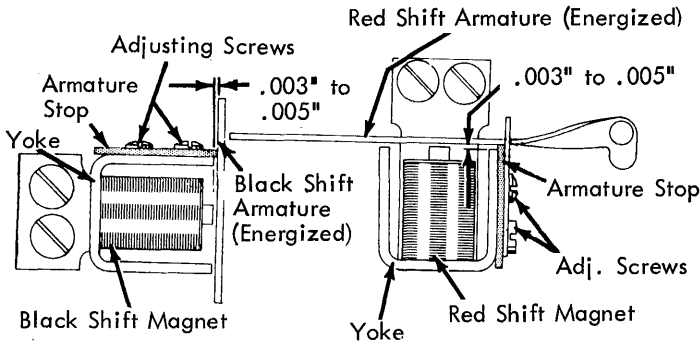

FIGURE 270. Armature Stops
b. With the armatures energized, position the armature stops so that the armatures clear the magnet yoke by .003" to .005" (Fig. 270).